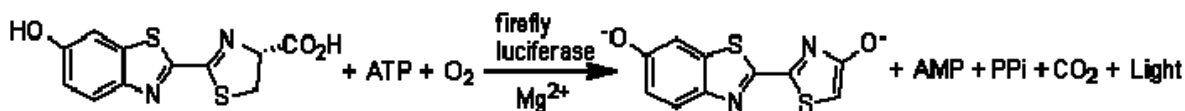

Figure 1. Bioluminescent reaction catalyzed by *Firefly* luciferase.
*Firefly* luciferase is widely used as a reporter for studying gene regulation and function, and for pharmaceutical screening1,2. It is a very sensitive genetic reporter due to the lack of any endogenous activity in mammalian cells or tissues3,4. The *Firefly* luciferase is a 62,000 Dalton protein, which is active as a monomer and does not require subsequent processing for its activity. The enzyme catalyzes ATP-dependent D-luciferin oxidation by oxygen into oxyluciferin with emission of light centered on 560nm (Figure 1). As with many enzymes, *Firefly* luciferase follows Michaelis-Menten kinetics and, as a result, maximum light output is not achieved until the substrate and co-factors are present in large excess. When assayed under these conditions, light emitted from the reaction is directly proportional to the number of luciferase enzyme molecules. This *Firefly* luciferase assay kit is designed for detection and quantification of the *Firefly* luciferase reporter enzyme from cultured cells in a simple, efficient, and linear fashion (Figure 2).